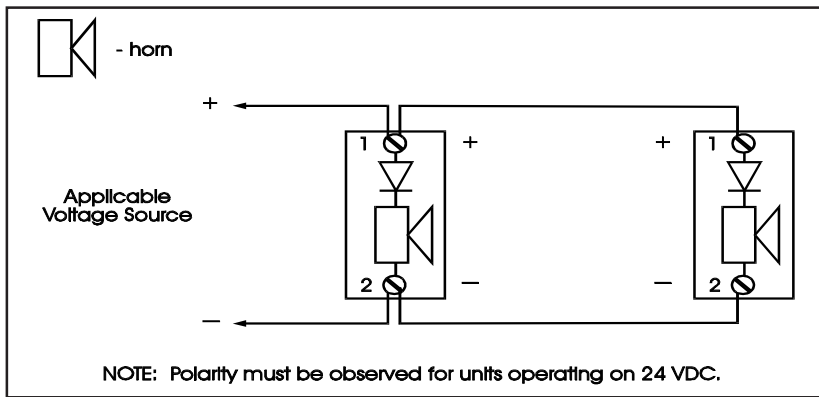

Figure 2. Wiring Diagrams
5. Connect signaling circuit field wires to terminals on horn assembly (Figures 2 and 3).